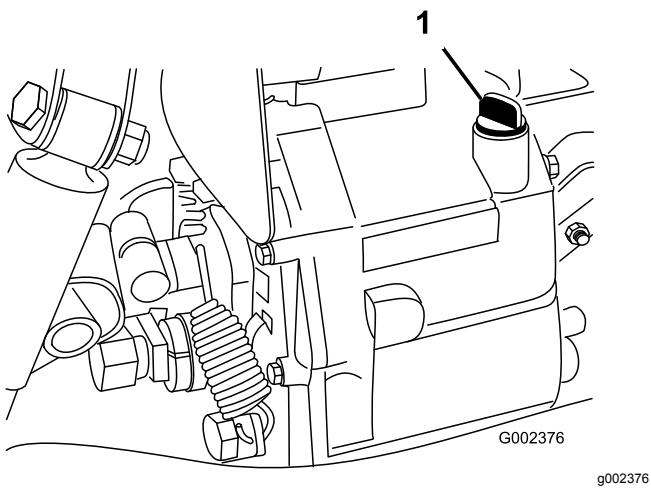

Figure 61
4. Clean the area around the dipstick (Figure 61).